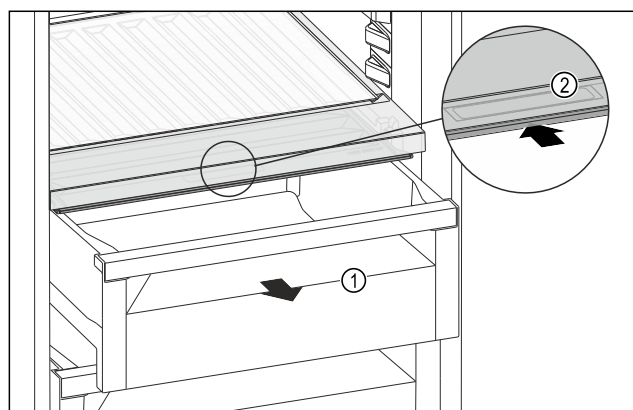

Fig. 89
- Pull out the drawer Fig. 89 (1).
- Grasp the recessed grip Fig. 89 (2) on the compartment lid and push the compartment lid backwards at the same time.